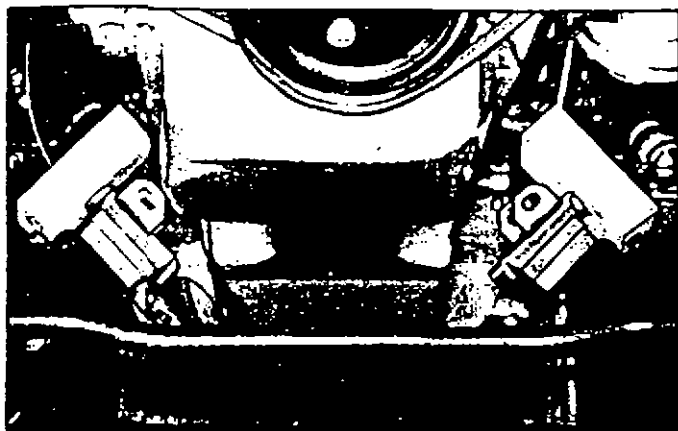

Fig. 5L—Engine Blocked for Pan Removal
10. On Chevrolet and Camaro, use a suitable jack (and a block of wood to prevent damaging oil pan), raise engine enough to insert 2" x 4" wood blocks under engine mounts (fig. 5L), then lower engine onto blocks.
9. Raise front of engine until motor mounts separate from frame brackets. Remove the right motor mount from the engine and install two bolts in the mount holes. Continue raising engine until a 4-1/2" block of wood can be inserted on the right side between the bolts and frame bracket and a 4" block on the left side between mount and frame (fig. 5L).